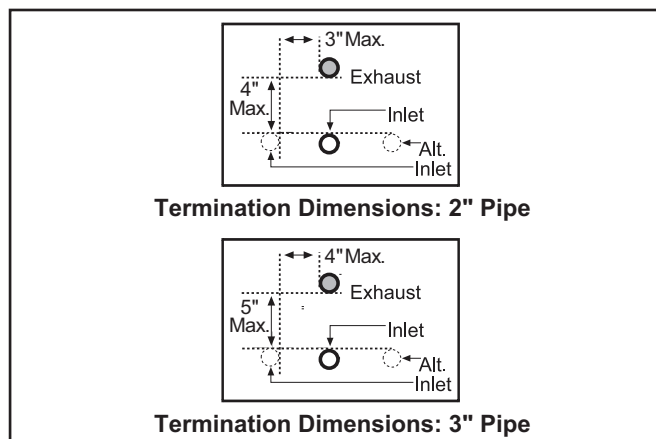

Figure 10.
When venting one water heater, locate the inlet and exhaust terminations according to Figure 10 below. When installing more than one water heater, see Venting Multiple Units on Page 29.
7. Refer to Figure 10 in "Vent Pipe Termination" for standard and alternate vent termination dimensions.